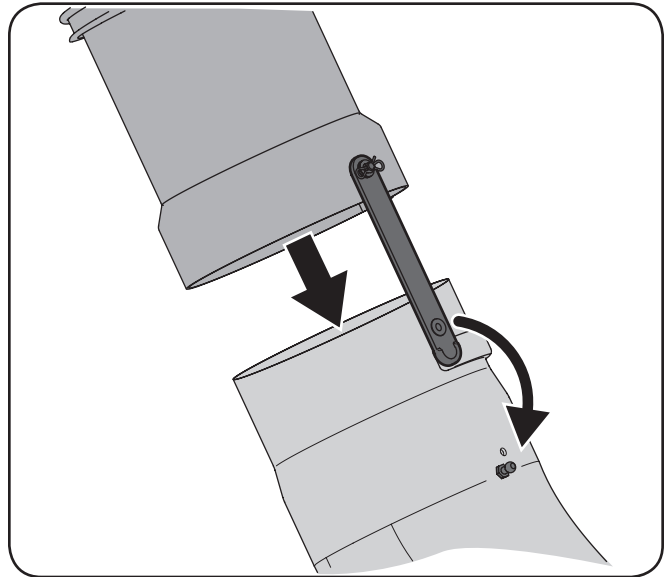

Figure 4-26
7. Install the upper chute tube onto the chute elbow by lining up the rubber strap on the upper chute tube with the pin installed on the chute elbow, as shown in Figure 4-26. Secure the upper chute tube to the chute elbow by hooking the rubber strap onto the deck pin as shown.